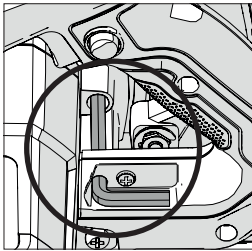

Fig. 1
- Locate the supplied Blade Change Hex Key which is housed in the onboard storage facility (similarly position on all machines). **(Fig. 1)**